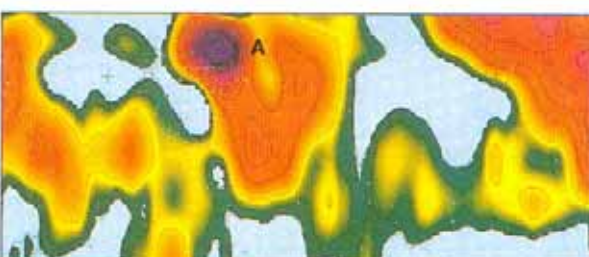

Figure 4. APPARENT CONDUCTIVITY (ON-TIME) CONTOURS (mS/m)
- The **apparent conductivity high** (17 mS/m) shown in figure 4 is coincident with the magnetic low. The high spectral content of the GEOTEM **on-time** channel and its geological mapping capabilities is also well illustrated.